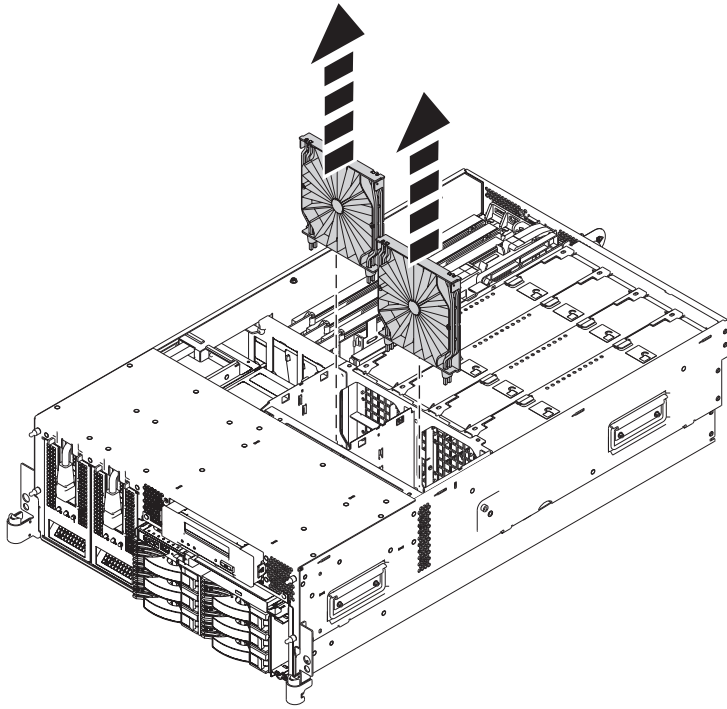

Figure 4. Removing the disk drive cage
- c. Grasp the handles and pull the disk drive cage out of the system unit. See Figure 4 on page 9.